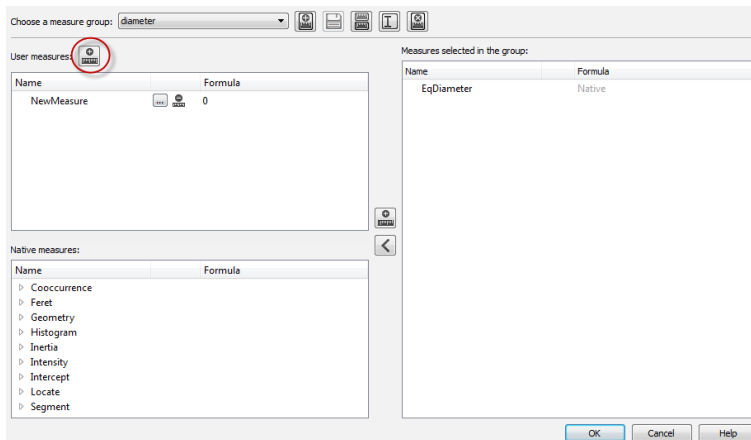

Figure 6.62: Custom measures definition button
- Create a custom measure by pressing the dedicated button (see Figure 6.62).